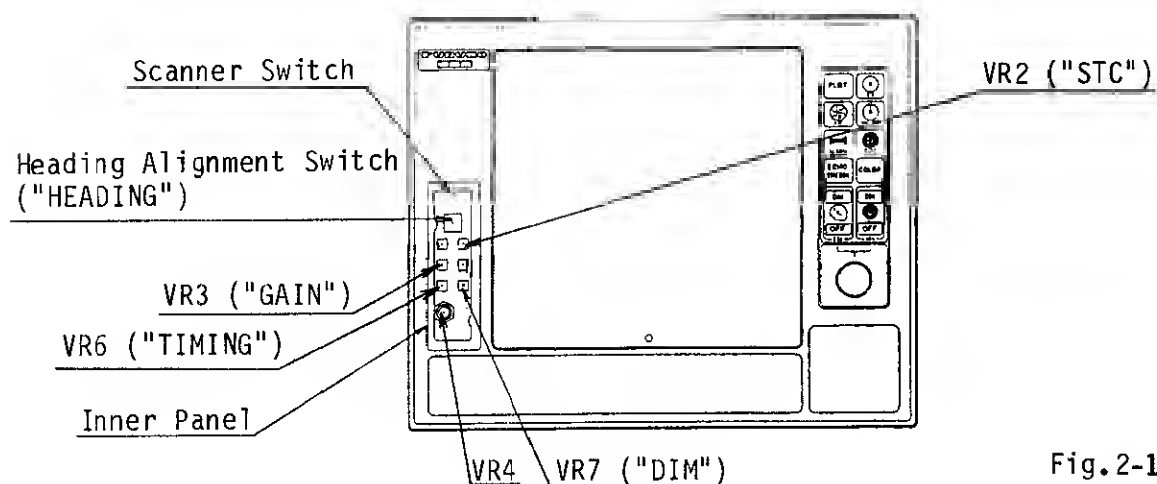
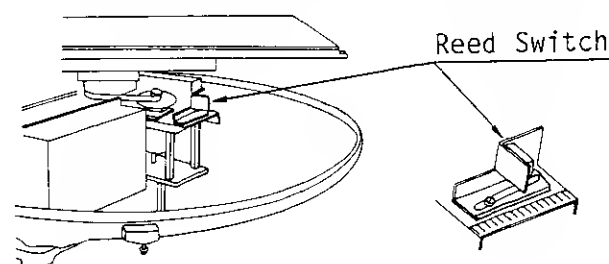

Fig.2-1
Fig.2-4
2. Adjust potentiometer VR4 inside the inner panel (Fig.2-1), located at the left hand side of the display unit, so that a comparatively weak long range echo is discerned with maximum definition.
3. Adjust potentiometer VR6 (Fig.2-1) so that the straight object appears straight with no "pushing" or "pulling" near the center of the picture. See Fig.2-2.
6. The bearing of the target from the heading flash on the screen should be the same as that found on the navigational chart or the visual measurement. If there is a difference between them, adjust the Heading Alignment switch inside the inner panel in the display unit (Fig.2-1) to compensate for the difference (adjustable  $\pm 5^\circ$ ).
NOTE: When adjustment can not be completed by the Heading Alignment switch, turn off the scanner switch (Fig.2-1) to suspend antenna rotation and change the position of the reed switch in the radome (Fig.2-4), then readjust the Heading Alignment switch. This should be made if the scanner unit is installed with a large error in direction.
3. Adjust potentiometer VR3 inside the inner panel (Fig.2-1) so that a little background noise (white noise) appears on the screen.
4. Adjust potentiometer VR2 inside the inner panel (Fig.2-1) so that the effective range of the sea clutter is 4 to 7 n.m.
Note that the illumination of the touchpads/front panel can be adjusted by the illumination pot. (VR7, "DIM") in the inner panel. See Fig.2-1. Clockwise turning of VR7 will increase the illumination.